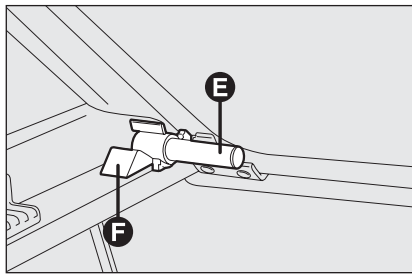

fig. 75
- release the pins **E-fig. 75** set outside the shelf from their seats **F** on side supports, then remove the rear parcel shelf.